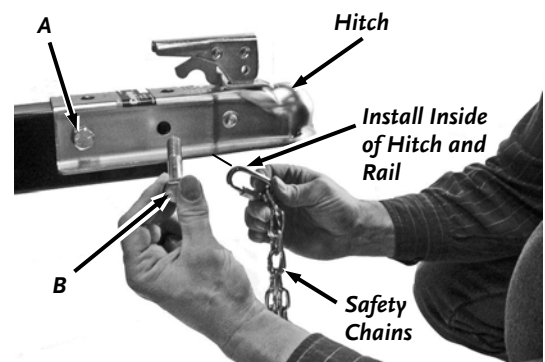

Figure 14
12. Place the hitch over the attachment tube, aligning the bolt holes, and insert the rear 1/2-13 x 3 inch bolt (A). Install and tighten the locknut (**Figure 14**).
13. Insert the large end of the safety chain quick-link into the front tube of the rail assembly and insert a 1/2-13 x 3 inch bolt (B) through the hitch and link. Install and tighten the locknut.